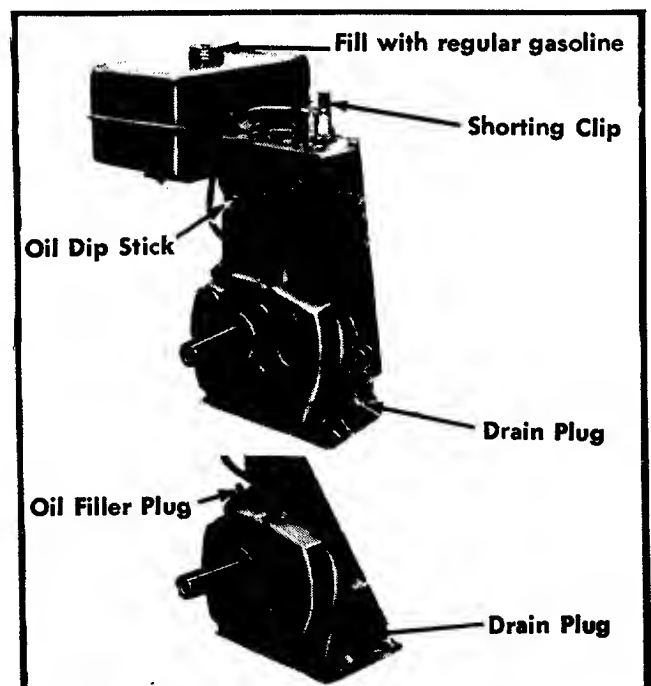

FIGURE 4.
2. Remove bolt (Ref. No. 54), lockwasher (Ref. No. 55) and flat washer (Ref. No. 20) holding blade (Ref No. 56) to engine crankshaft. See figure 4.
1. Fill fuel tank with fresh regular gasoline. (See figure 4.)
2. Fill crankcase with oil. (See figure 4.)
1. Be sure shorting clip (figure 4) is away from spark plug if engine is so equipped.
1. Press shorting clip against end of spark plug (figure 4) and hold until engine stops running. If shorting clip is not present move carburetor control to STOP position. If key starting is used, turn key to OFF position.
Disconnect high tension wire at spark plug to prevent accidental starting of engine. Unscrew oil drain plug located on side at bottom of engine (figure 4).